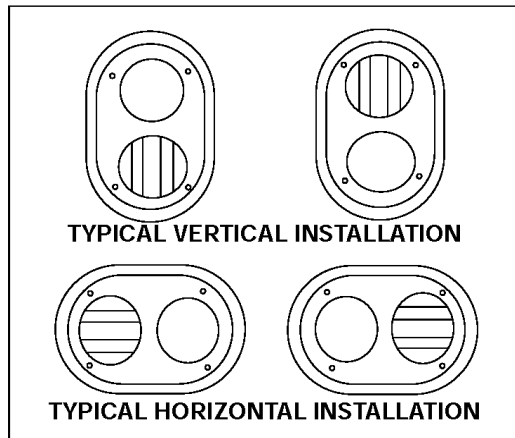

Figure 3
2. Vent may be oriented in any direction as long as it is mounted on a vertical wall (See Figure 3).